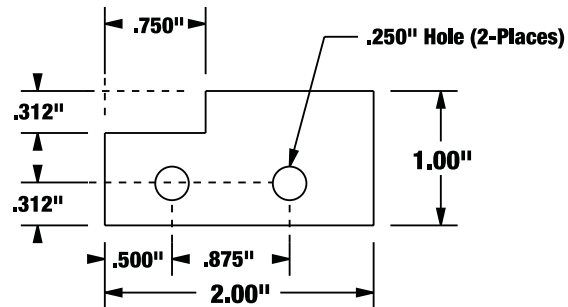

Figure 3 - Cruise Control Bracket
- **BRACKETS:** On vehicles with cruise control using a Performer RPM series intake manifold (#7176, 7576 or 75763), a bracket must be fabricated to move the cruise control clamp (*See Figure 3 for reference*). This ensures proper clamping of the cruise control cable. Also, due to the high-rise design of Performer RPM intake manifolds, there may be slight interference between the throttle linkage bracket, and the intake runner wall. Minor grinding to the throttle bracket may be required to provide clearance.